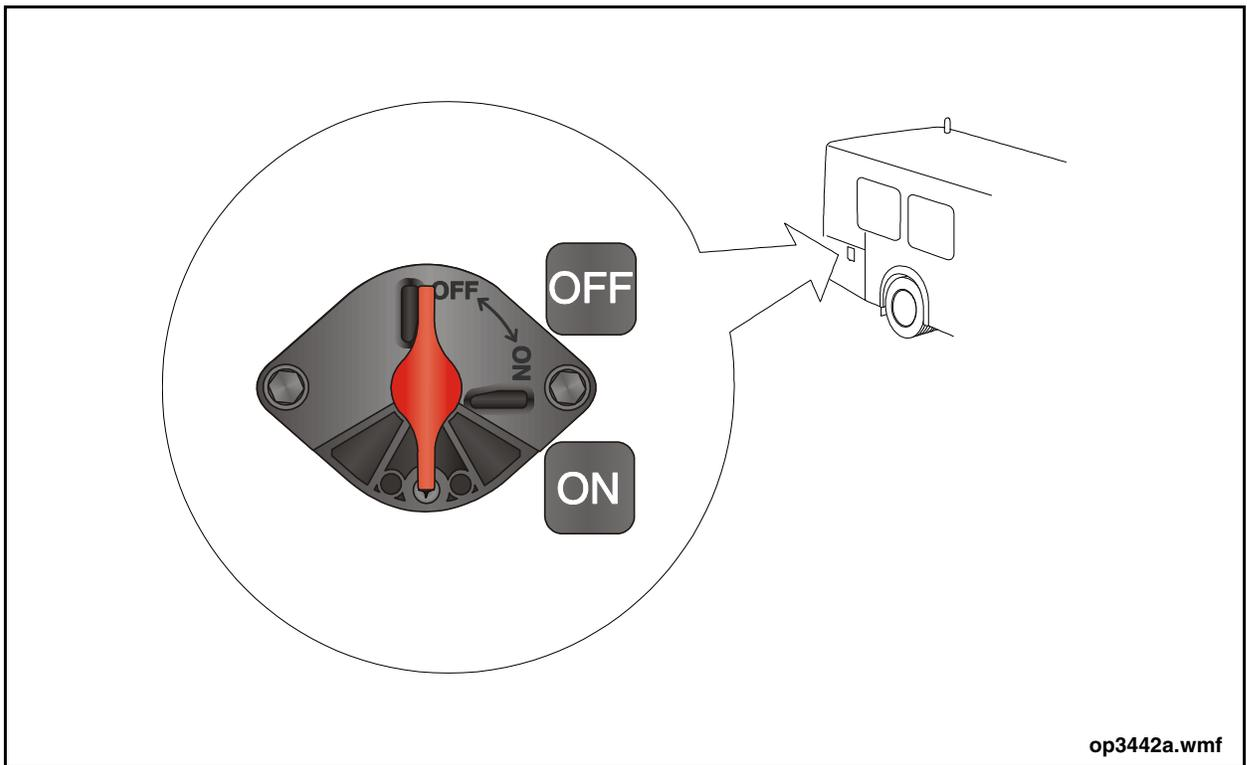

Figure 1: Battery Disconnect Switch
7. Shut off all 12/24 VDC electrical power to the vehicle by setting the Battery Disconnect switch to the OFF position. See “Figure 1: Battery Disconnect Switch” on page 13.